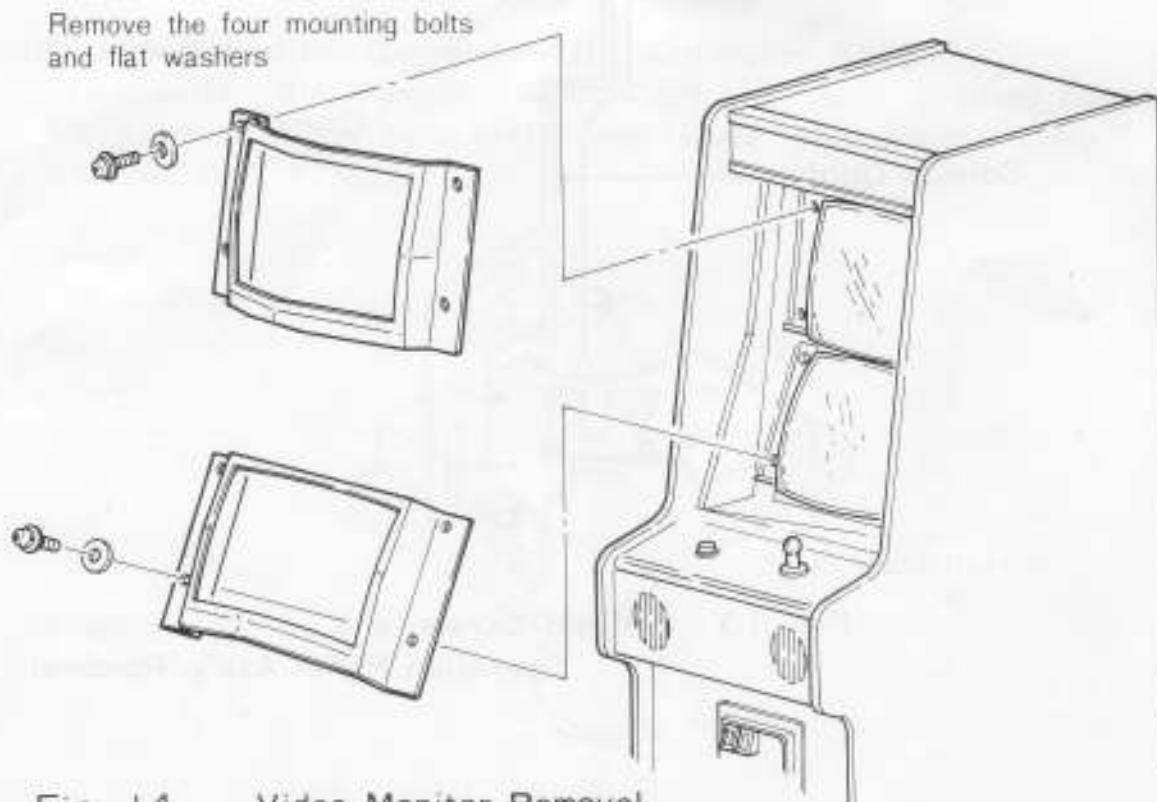

Fig. 14 Video Monitor Removal
- (d) Standing at the front opening of the game, remove the four mounting bolts and flat washers. See Fig 14.